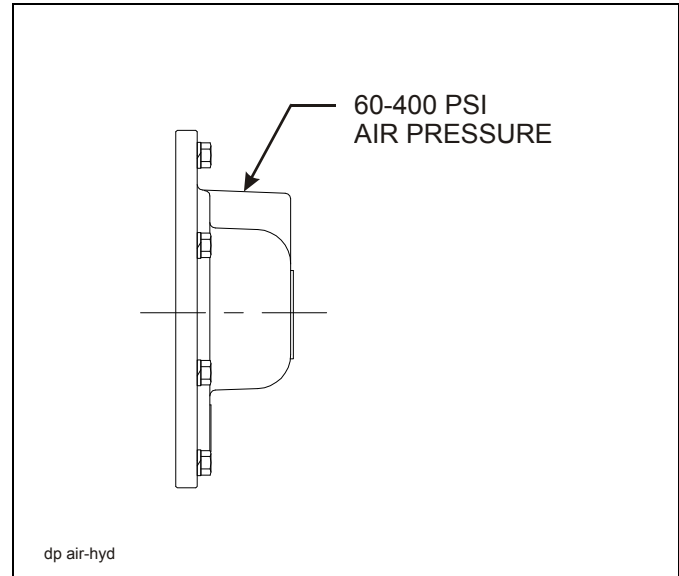

Figure 3-9: Air/Hydraulic Kickout
2. The air freespool clutch is operated by application of air pressure to the fitting supplied on the winch gearbox housing (**See Figure 3-9.**) The fitting is designed to accept 1/4" rigid plastic tubing.